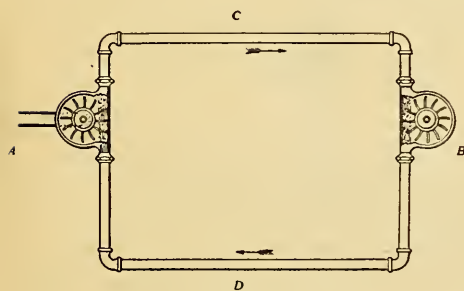

Fig. 1
94. A closed path or Circuit is necessary before electricity can flow. That is, it must return to the starting point. Fig. 1, page 17, shows a water system in which "A" is a rotating pump and "C" and "D" the pipes, and "B" is a water motor. This whole system is filled with water. When the pump "A" is caused to rotate water will be forced through the pipe "C" through the water motor "B", causing it to rotate and return through the pipe "D." This completes the water circuit. By means of the water in motion, energy is transmitted from the pump to the motor; where it can be converted into useful work in a number of (mechanical) ways.
99. Two things govern the amount of power which can be transmitted by the water system of Fig. 1. First, the pressure with which the water is forced through the pipes, and second, the size of the nozzle at the motor.